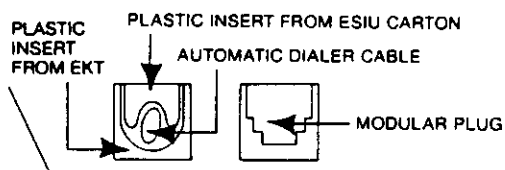

FIGURE 10 — REAR VIEW EKT EXIT PORTS — AUTOMATIC DIALER CONNECTED
4.4 If no external speakerphone is connected, loosen the modular jack metal retaining bracket and insert the plastic cable spacer (without the plug), underneath the AD connector cable. Insert the $\frac{3}{8}$ x $\frac{7}{16}$ inch plastic insert, provided with the ESIU, over the AD connecting cable. Tighten the metal retaining bracket screw. See **Figure 10**.